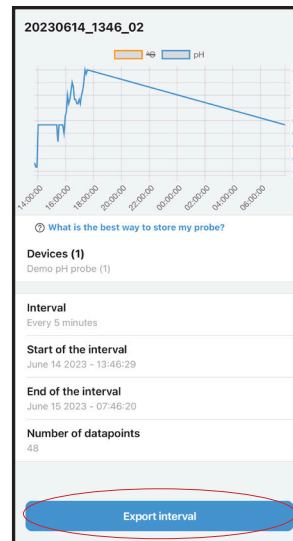
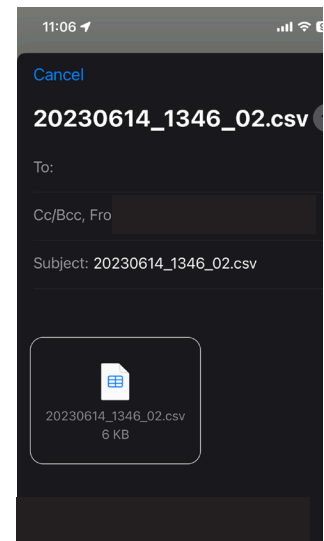

Figure 8
Figure 9
- Click **Stop Interval** (Figure 8)
- The screen will show the probe(s) used in the interval, the interval time, start and end time of the interval and the number of data points (Figure 8)
- Select **Export Interval** to export data into a .csv file that can be saved or emailed (Figure 8/Figure 9)